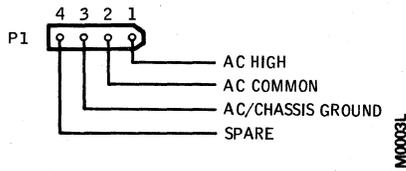

Figure 2-3. AC Power Connection
1. The unit end of the power cable should connect to a 4 pin, female MOLEX connector as shown in Figure 2-3.
When optional Model 2004 Exerciser and/or interface pcb is to be used, plug, P6, must be wired to plug, P2, as shown in Figure 2-3.